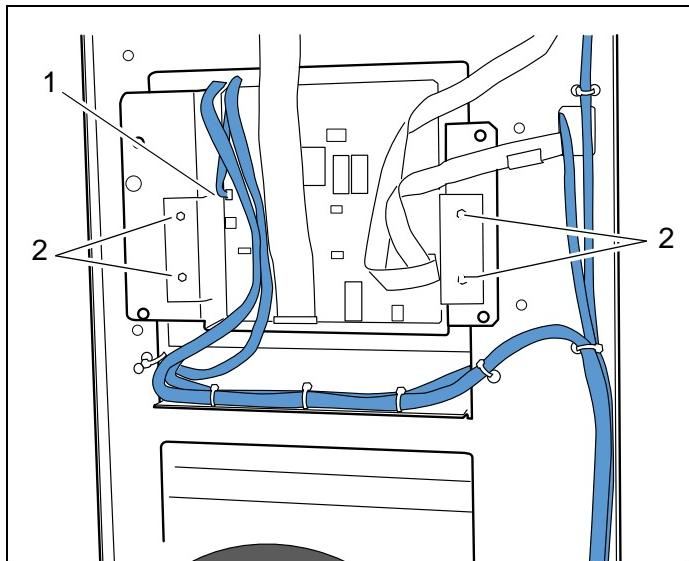

Fig. 11
- Disconnect K302 on D301 (pos. 1 / Fig. 11).
- Remove the four nuts (pos. 2 / Fig. 11).